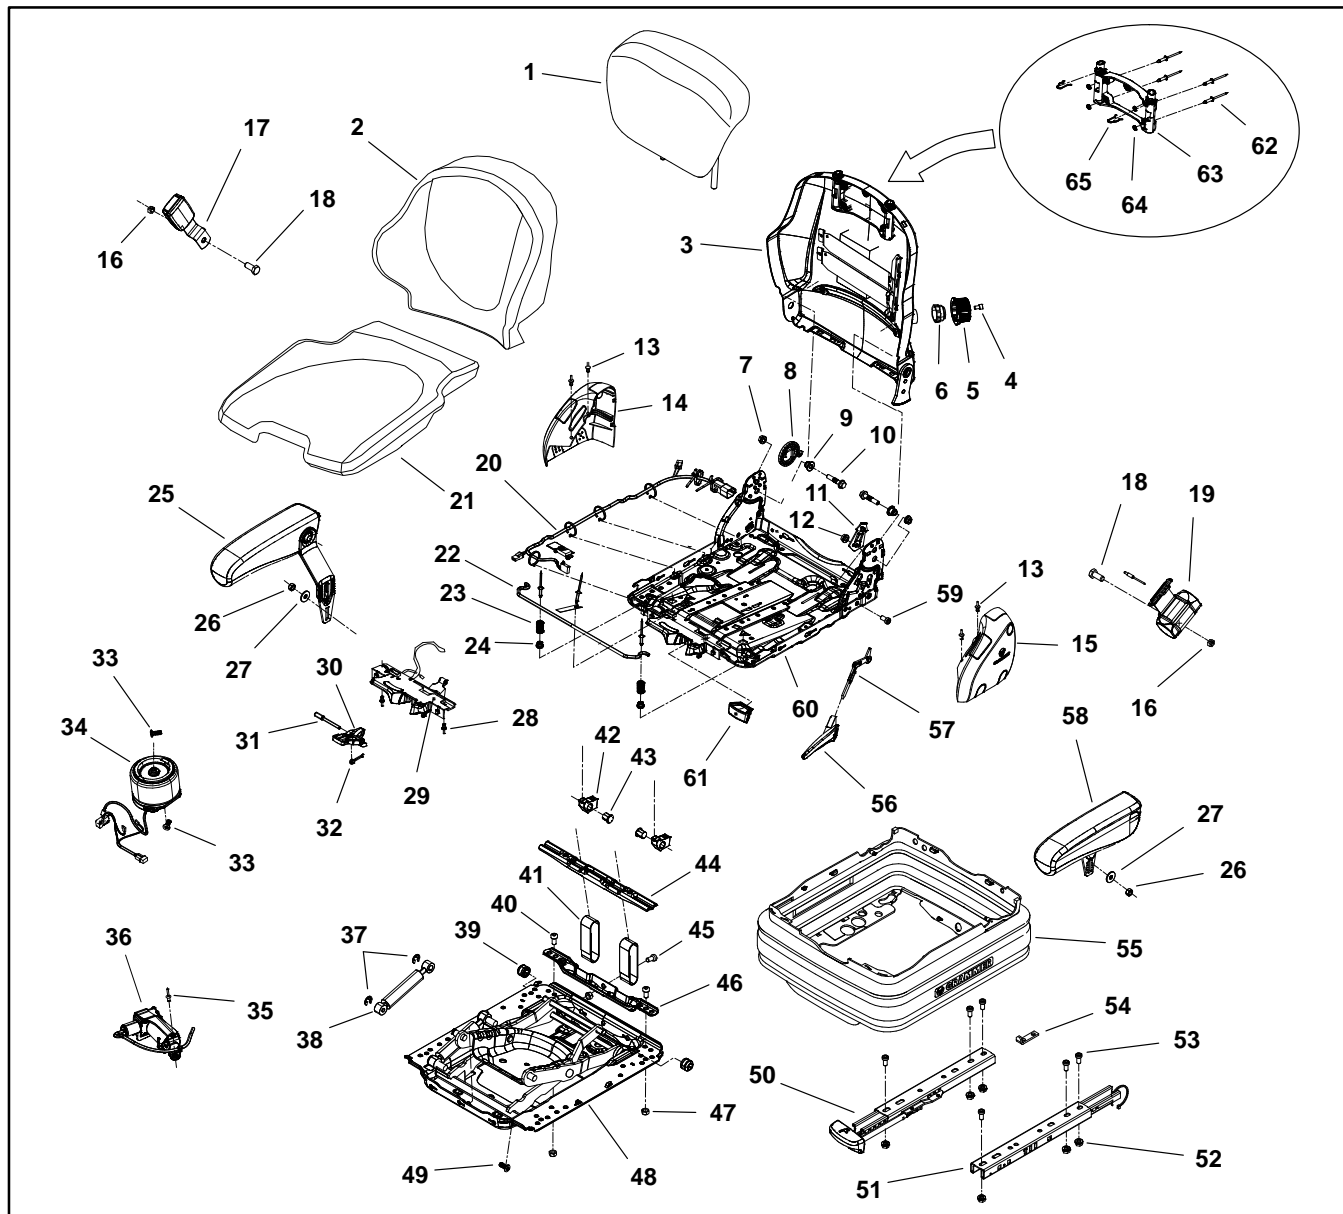

Figure 60
Disassembly (Fig. 60)
2. Disassemble operator seat as necessary using Figure 60 as a guide.
Assembly (Fig. 60)
1. Assemble operator seat using Figure 60 as a guide.